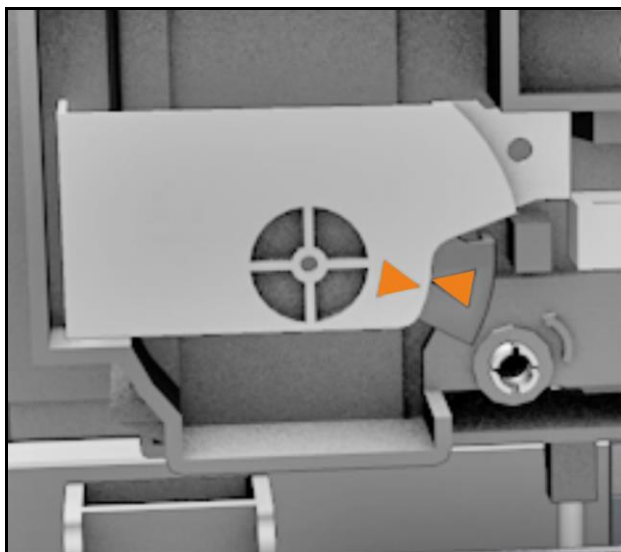

Figure 164 Cleaning unit unlocked
- 6 Insert a screwdriver in the printhead unlocker (B) and turn the printhead (A) 90° counterclockwise so that it reaches the unlocking position (see Figure 164).